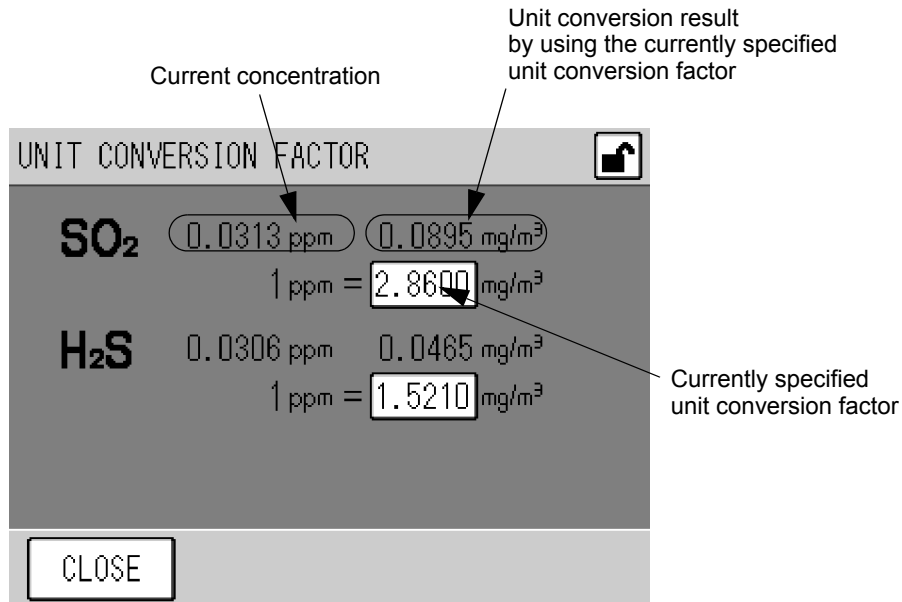

Fig. 76 UNIT CONVERSION FACTOR screen
- [UNIT CONVERSION FACTOR]: Displays the UNIT CONVERSION FACTOR screen (Fig. 76 on page 60).